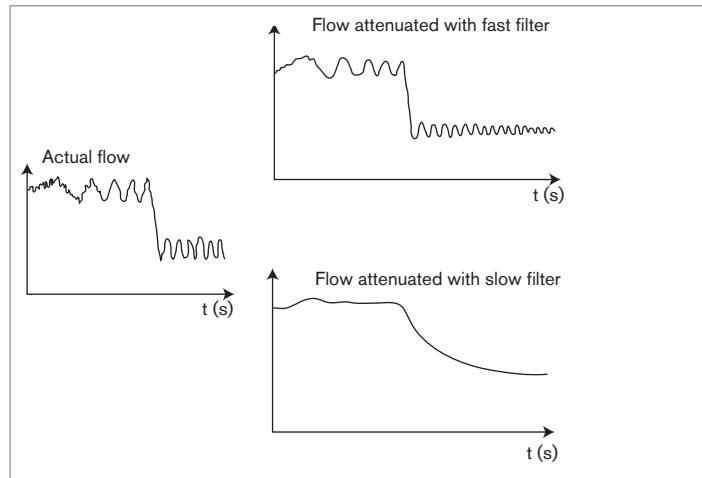

Fig. 25 : Flow filters
▪ "Slow" filter is used to even out high variations in flow (example: fluid containing air bubbles), see Fig. 25 .
- "Fast" filter is used to even out low variations in flow (see Fig. 25).